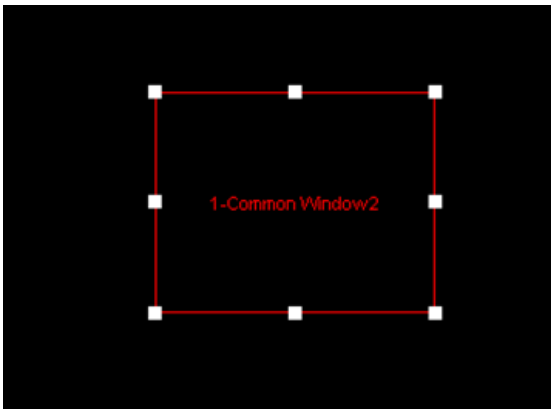

Figure 4-14 Adjusting the Window Size Using the Mouse
- b) Click the display window on the screen and adjust its size by using the mouse, as shown in Figure 4-14: